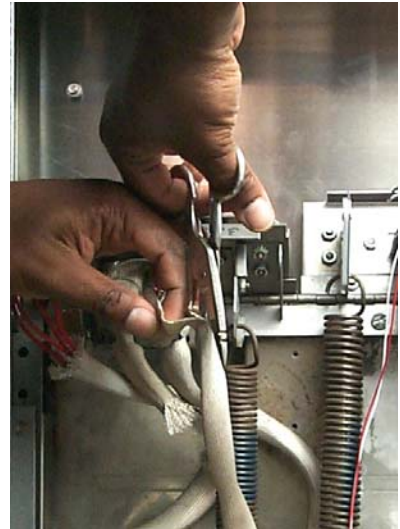

Figure 6: Cut all sheathing from the element wires.
4. Use shears to cut all sheathing and tie wraps from the element, probe, and hi-limit wires (see Fig. 6).